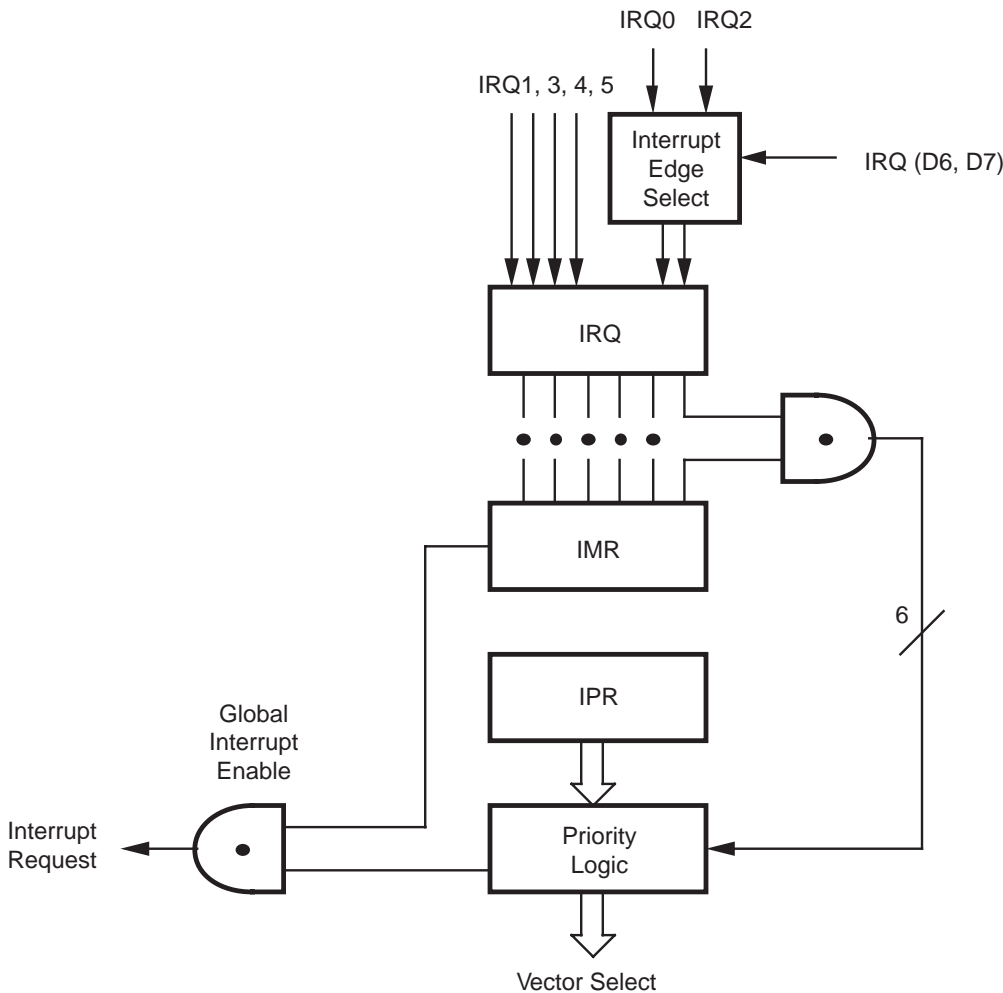

Figure 28. Interrupt Block Diagram
**Interrupts.** The MCU has six different interrupts from six different sources. The interrupts are maskable and prioritized (Figure 28). The six sources are divided as follows: four sources are claimed by Port 3 lines P33–P30) and two